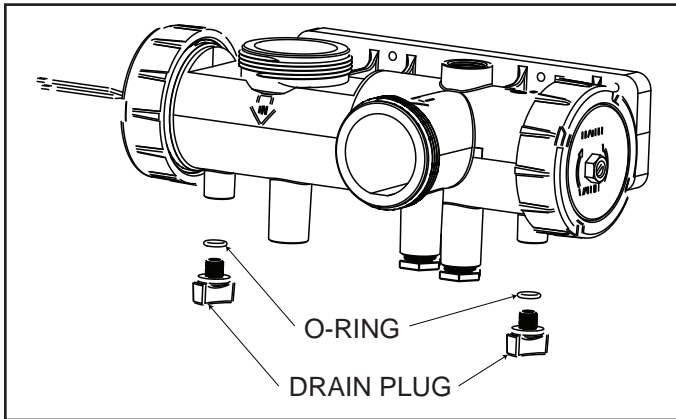

Figure 35. Draining the Heater
4. Remove the drain plugs from both the inlet/outlet header and the return header, see Figure 35 and *Sections 11.3 and 11.4, Exploded Views*, and completely drain the heater before the first frost.